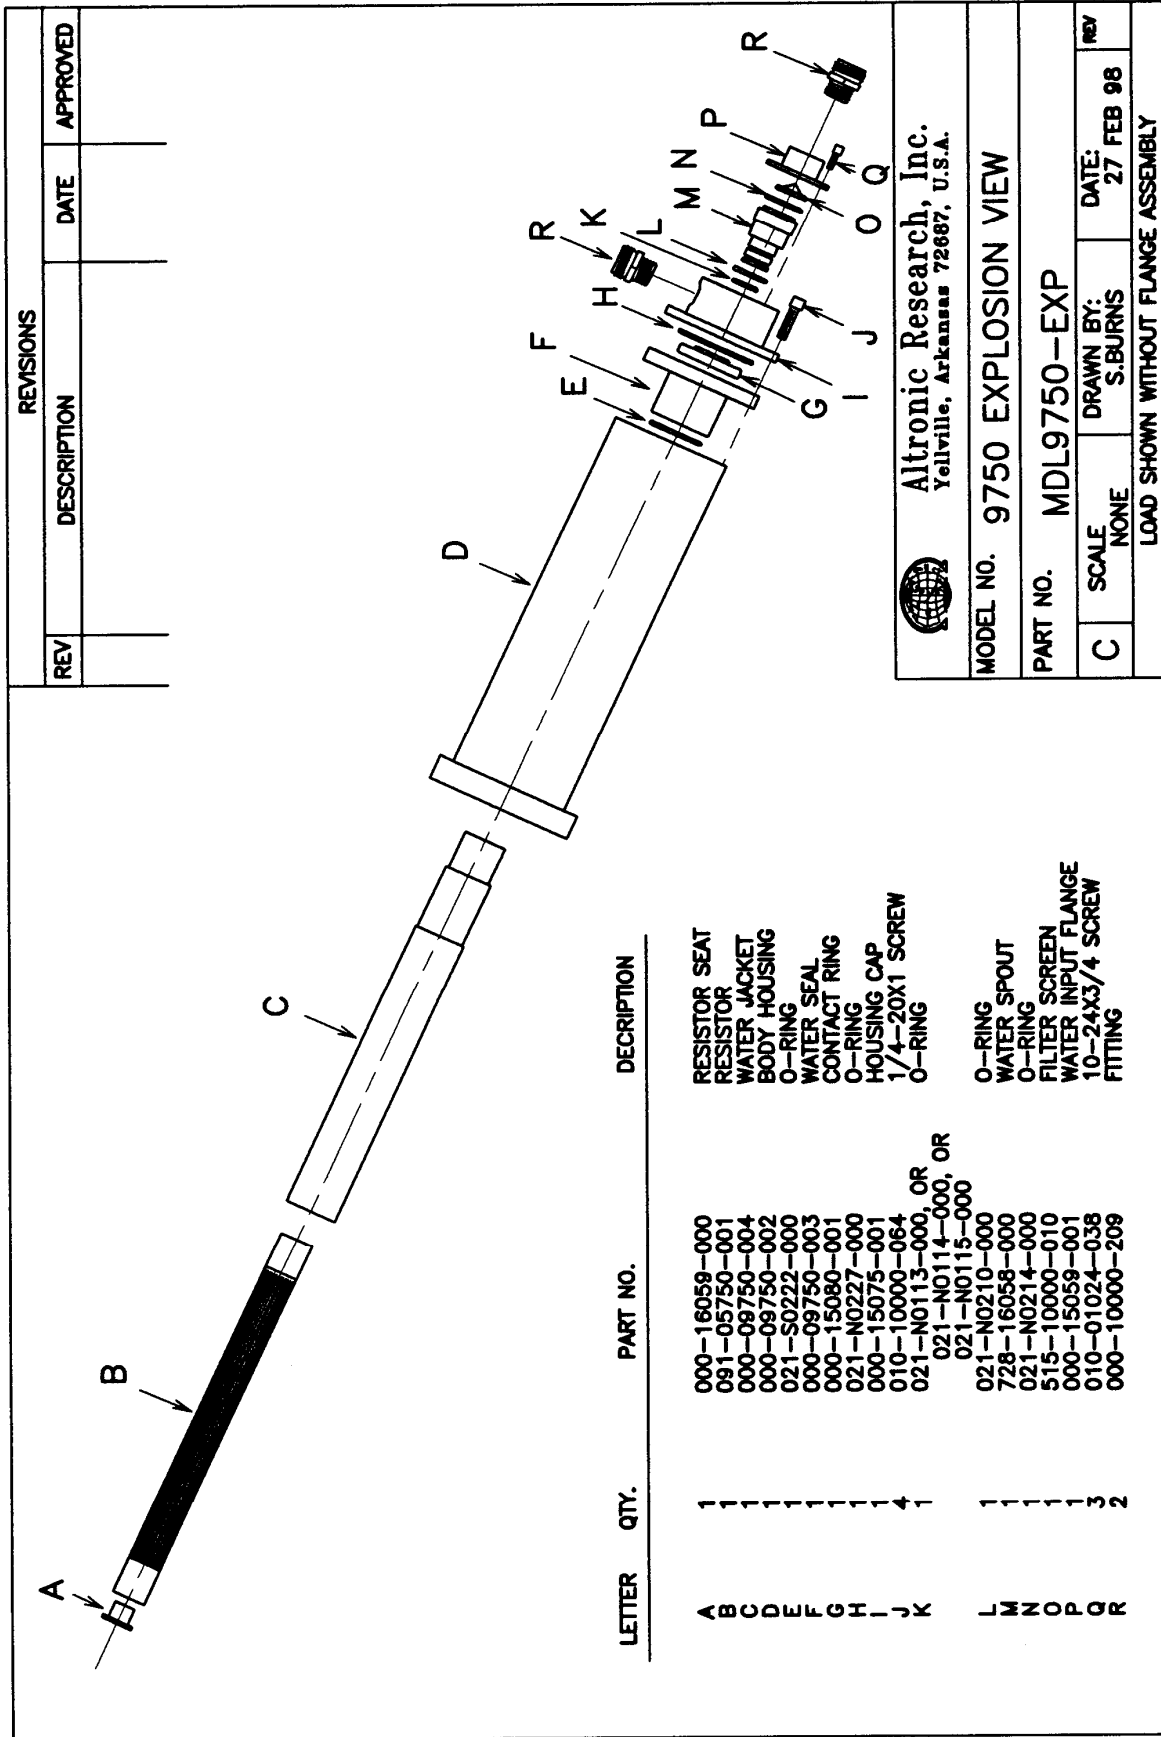
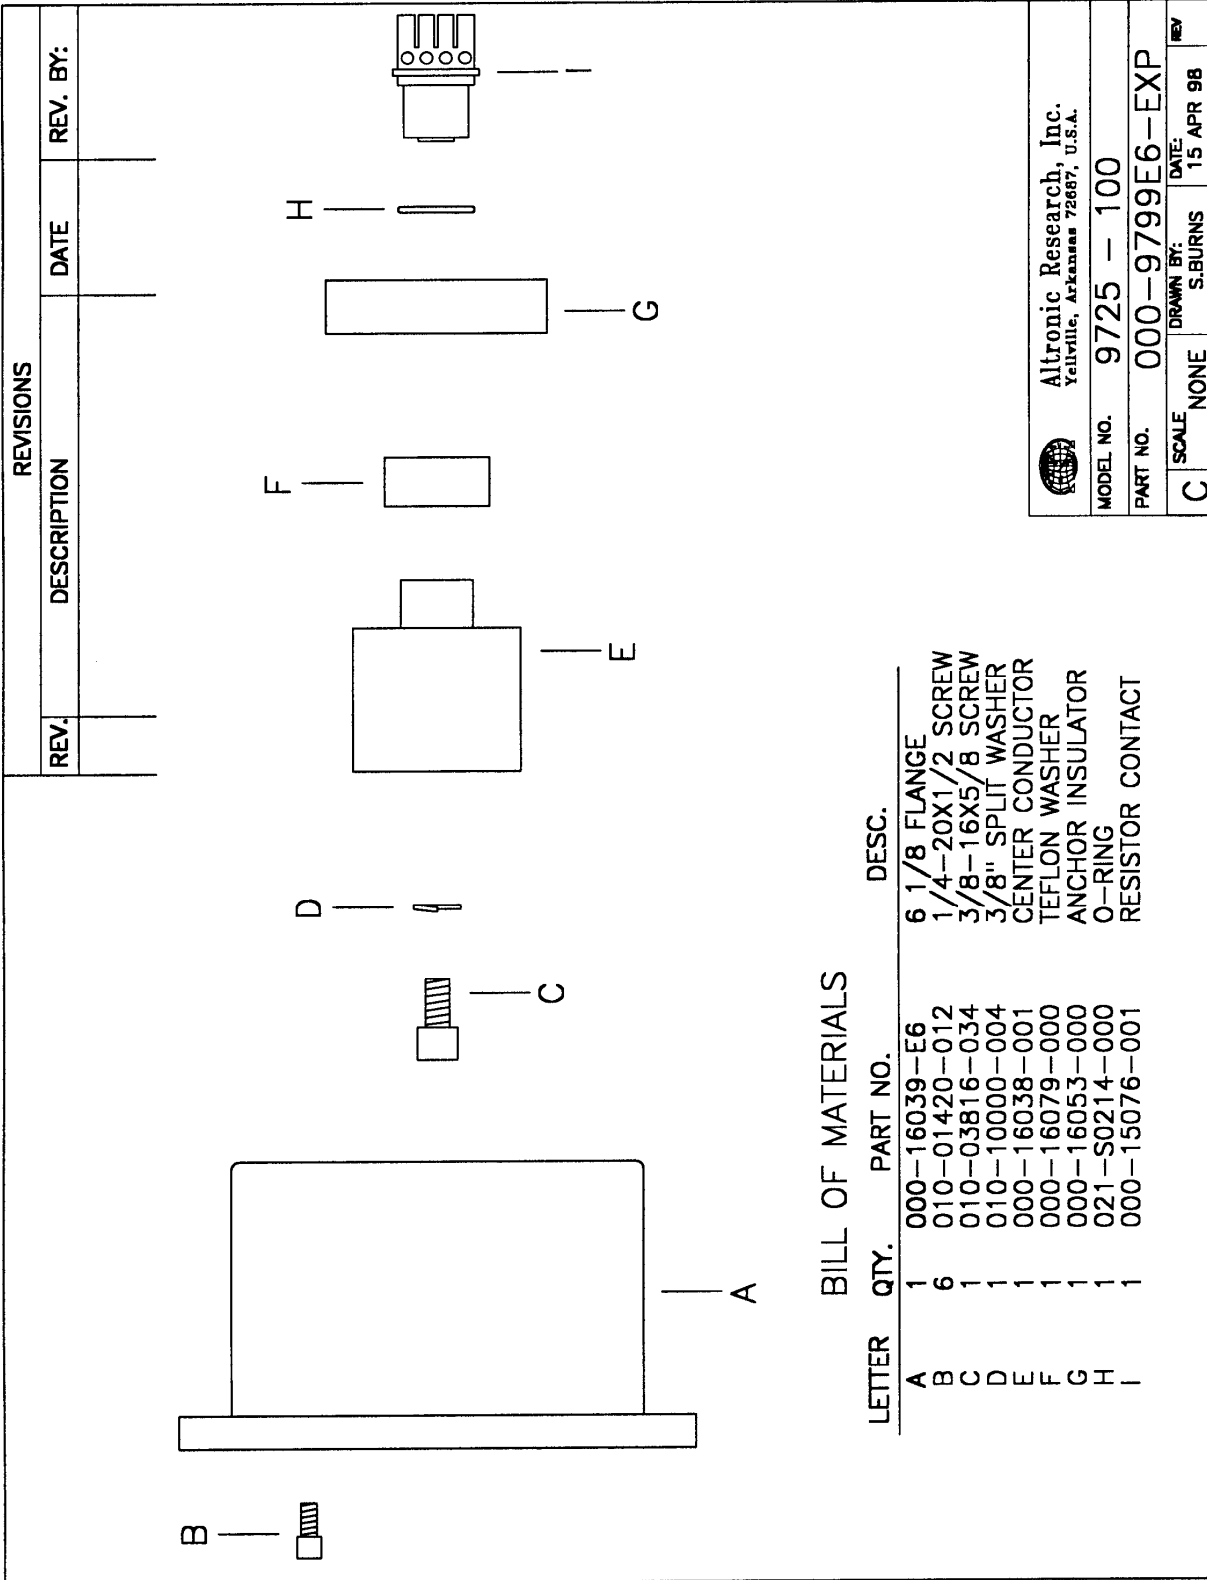

Fig. 14
Fig. 15
4. **Resistor Replacement** - (Refer to Fig. 14) To replace the resistor element, remove the three 10-24x1-3/8" cap screws (item Q). Remove water input assembly (items O, P, and R). Inspect filter screen for damage, replace if eroded or torn. Remove four 1/4-20x1/2 cap screws (item J). Remove housing cap assembly (items G, H, I, R, K, M and N). Inspect all O-rings for distortion or damage. Replace if pinched, cut, burned or no longer round in cross section. Inspect ring contact (item G) for signs of arcing or loss of silver in the area of contact with the resistor contact band. Replace if damage is noted. If
- 5. Removal of RF Input** - (Refer to Fig. 15) To remove the RF input line adaptor flange, remove six 1/4-20x1/2 socket head screws (item B) that secures the line adaptor flange (item A) to the load body housing (item D, Fig. 14). The RF input assembly consisting of the center conductor, anchor insulator and front resistor contact (items C, D, E, F, G, H and I) will normally remain in the load body. Grasp the center conductor (item E) by hand and attempt to pull the input assembly out of the load body using slight side to side motion while pulling. If strong resistance is encountered, it may be necessary to chill the load to allow the anchor insulator to shrink away from the load housing. This can be done by placing the load in a freezer, or packing the load in ice for 20 to 30 minutes. Once the anchor insulator has shrunk away from the load housing, the RF input assembly should be easily removed. At this point of disassembly, all components of the load can be inspected or replaced as needed. Reassembly should be done in the reverse order of sequence.